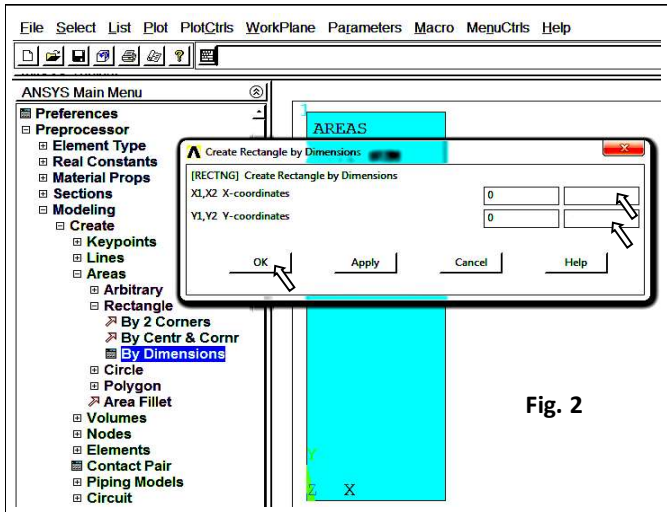

Fig. 2
a) create a rectangle (X- coordinates: 0 to $a+r_1$, Y- coordinates: 0 to $3a+r_1$, Fig. 2)